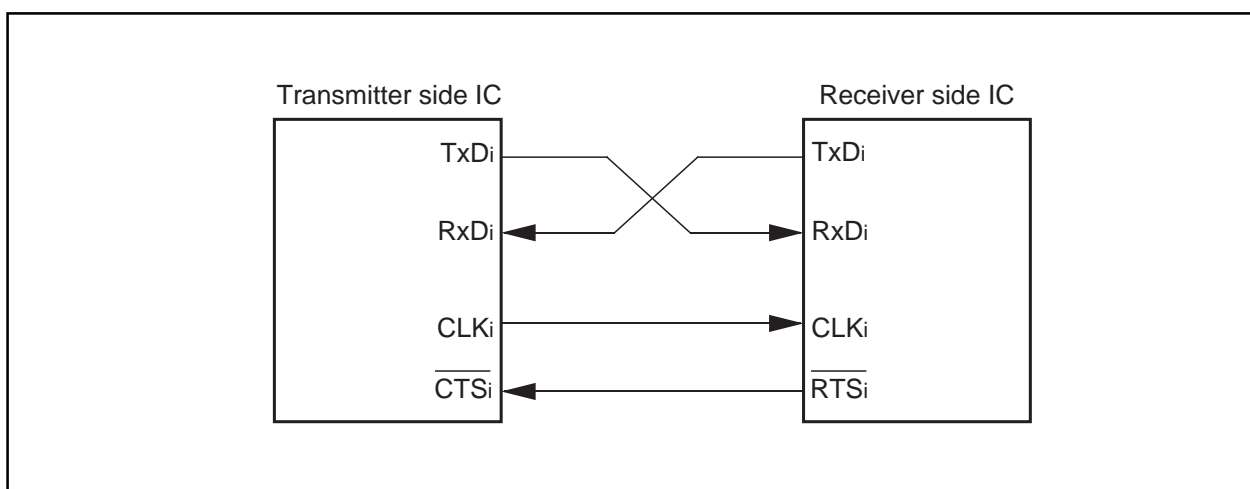

Figure 2.4.14. Example of wiring
- (1) With an external clock selected, and choosing the  $\overline{\text{RTS}}$  function, the output level of the  $\overline{\text{RTSi}}$  pin goes to "L" when the data-receivable status becomes ready, which informs the transmission side that the reception has become ready. The output level of the  $\overline{\text{RTSi}}$  pin goes to "H" when reception starts. So if the  $\overline{\text{RTSi}}$  pin is connected to the  $\overline{\text{CTS}}$  pin on the transmission side, the circuit can transmission and reception data with consistent timing. With the internal clock, the  $\overline{\text{RTS}}$  function has no effect. Figure 2.4.14 shows an example of wiring.